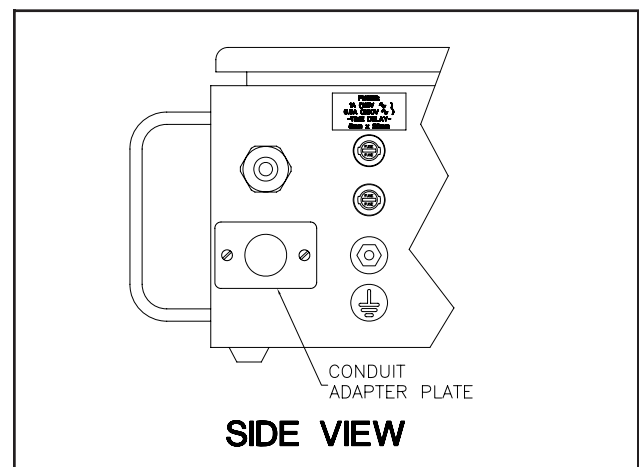

Figure 16c: Installation of Conduit Adapter Plate
3. Install the Conduit Adapter Plate (supplied) in the hole where the AC inlet receptacle was removed (see Figure 16c).